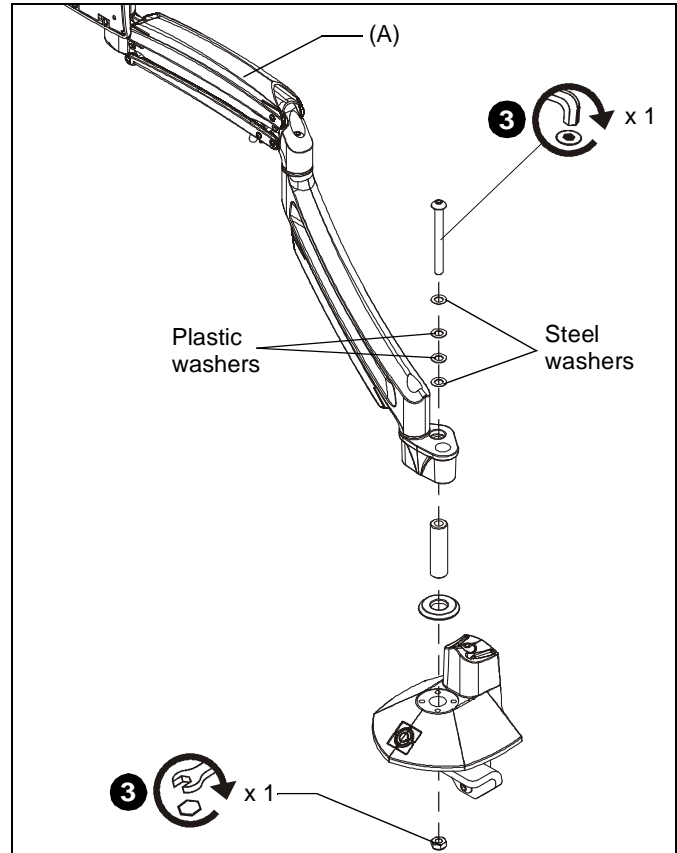

Figure 2
3. Attach single monitor arm assembly (A) to original mount base using hardware that was removed in Step 2. (See Figure 2)